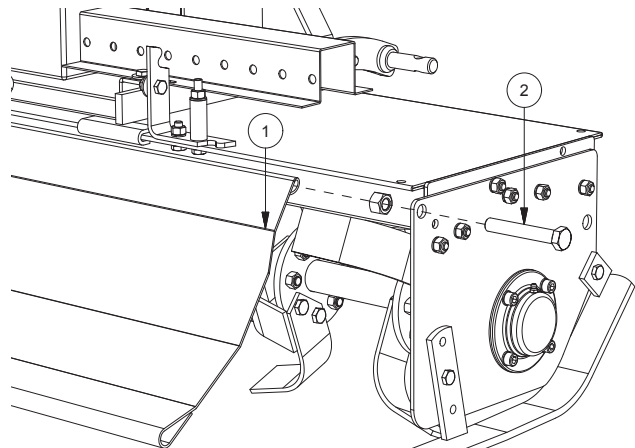

FIG. 7
- Fit rear hood (1, Fig. 7): place it between the frame sides; insert screws (2) through the hood and both the sides.